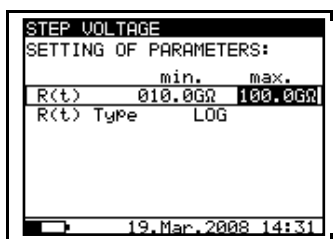

Fig. 27. Set-up menu of the Graph $R(t)$
- Press the **SELECT** key to Set-up the parameters of the **graph R(t)**, see the **Fig. 27**. Press the **ESC** key to return to basic Set-up menu in the **Step Voltage** function.